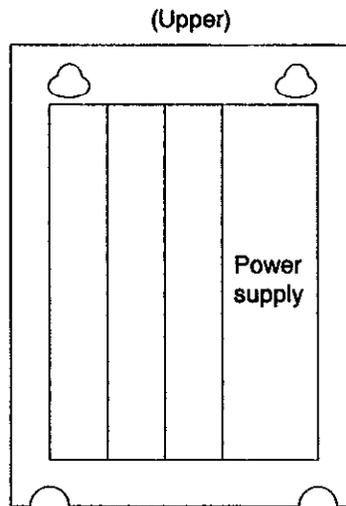

Fig. 1.4 Mounting of CNC Unit
- Mount the CNC unit in the direction as shown in Fig. 1.4.